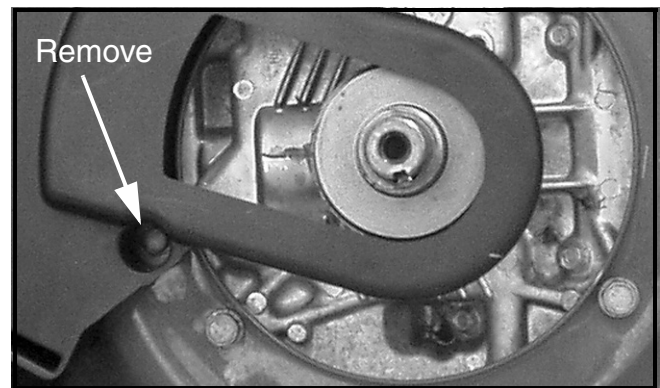

FIGURE 9
25. Using a 3/8" socket with extension (or a deep socket) and ratchet, remove the self-tapping screw retaining the front portion of the main baffle. See Figure 9.
73. Reinstall the screw securing the front portion of the main baffle to the deck using the screw removed in Step 25. See Figure 9.